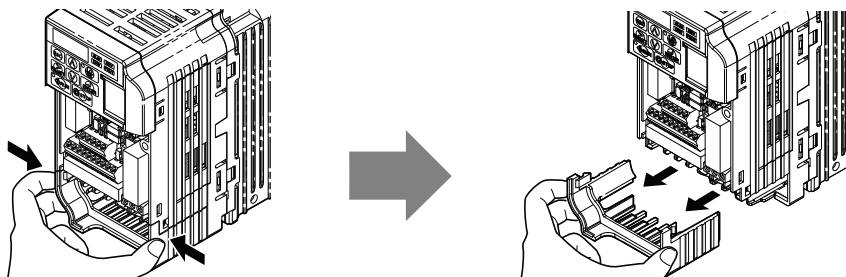
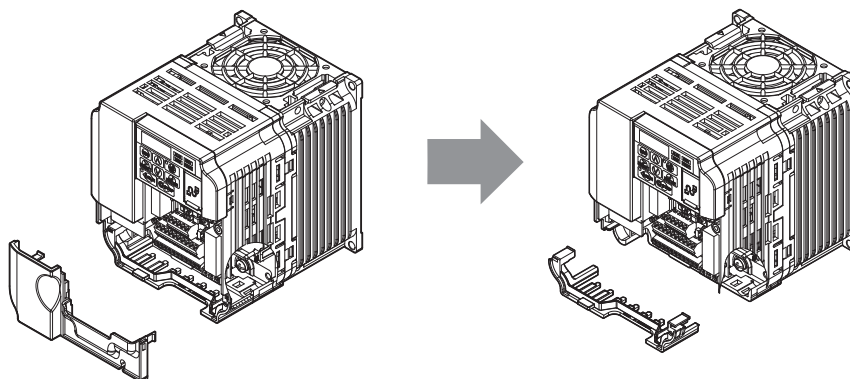

Figure 5 Remove the Bottom Cover on an IP20/Open-Chassis Drive (Models CIMR-V□□BA0001B to BA0003B and 2A0001B to 2A0006B)
Figure 6 Remove the Terminal Cover and Bottom Cover on an IP20/Open-Chassis Drive (Models CIMR-V□□BA0006B to BA0018B; 2A0010B to 2A0069B; 4A0001B to 4A0038B)
- For IP20/Open-Chassis models CIMR-V□□A□□□□B, Remove the bottom cover of the drive by applying pressure to the tabs on each side of the bottom cover. Pull the bottom cover away from the drive while pushing in on the tabs to release the cover from the drive. Refer to **Figure 5** for details. Refer to **Figure 6** for drive models CIMR-V□□BA0006B to BA0018B, 2A0010B to 2A0069B, and 4A0001B to 4A0038B, which require removing the terminal cover prior to removing the bottom cover.